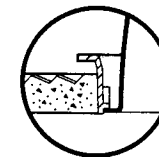

FIG. 4
2. For flangeless trim installation (Fig. 4), WHITE TRIM RING is not required.